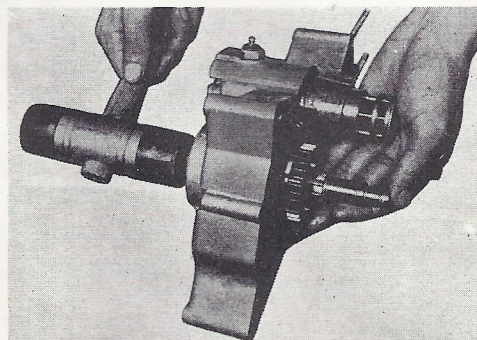

Fig. 3-15-4
- b. Remove the transmission shifter at the same time. (Fig. 3-15-4)